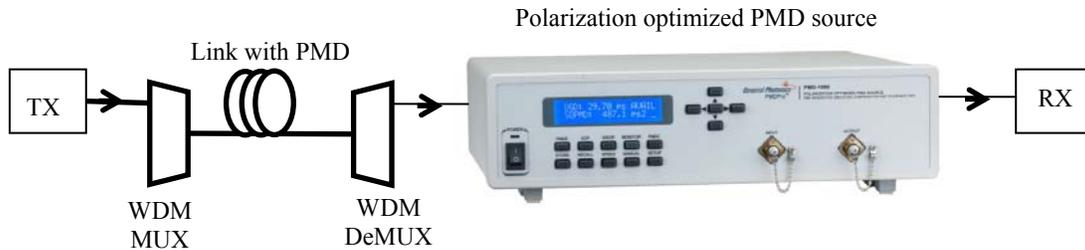

Figure 36 Polarization optimized PMD source in an in-service WDM link for the determination of its PMD and diagnosis of performance issues.
- 5) PMD value determination of an in-service fiber link. The optimized PMD compensation mode can be used to determine the PMD in the link, as shown in Figure 36, because the optimized PMD value for compensation should be close to the PMD value of the fiber link. Therefore, the PMD value of a fiber link can be determined by simply inserting a polarization optimized PMD source in the light path and enabling the PMD compensation function. The optimized PMD value identified by the instrument is then the PMD value of the link. It may also be necessary to characterize the PMD of a particular channel route in an in-service ROADM network to determine its feasibility for 40G operation before installing 40G transmitters and receivers. In such a situation, an ASE source can be placed at the transmitter end and a polarization optimized PMD source at the receiver end to perform PMD compensation. The optimized PMD value identified by the PMD source is then the PMD value of the fiber route. With this information, it is possible to decide whether the route is suitable for 40G transmission and whether